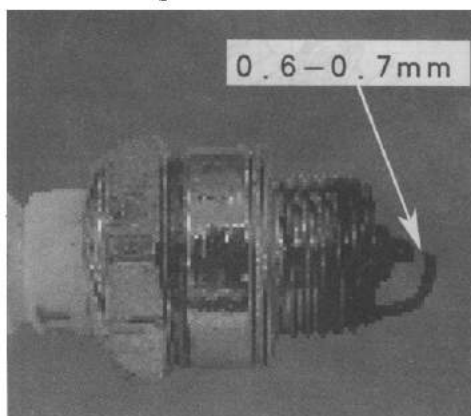

Fig 16
d. The plug model of this machine is 4106J. Do not use other models. If it is necessary for change, may buy it from local agricultural department or plant protection department, as shown in Fig.16.